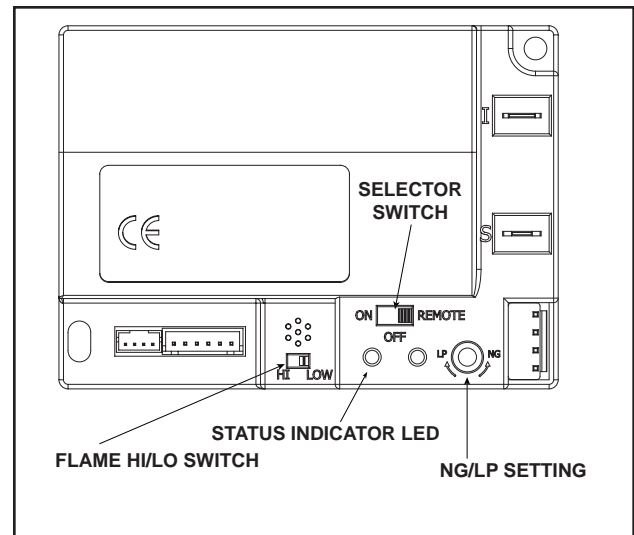

Figure 39. Control Module
1. The control module has an ON/OFF/REMOTE selector switch that must be set. See Figure 39.
3. If using a wired wall switch with the module in REMOTE mode, the flame output can be adjusted with the HI/LO selector switch on the module. See Figure 39. Note that the flame HI/LO selector switch will become inactive once an optional remote control (RC200/RC300) is programmed to the control module. Note that the control module will always ignite the fireplace on HI and remain so for the initial 10 seconds of operation. If the HI/LO is switched to the LO position, the flame output will automatically drop to the lowest setting after the flame has been established for 10 sec. After this 10 second period, the flame can be adjusted from HI to LO with the switch.